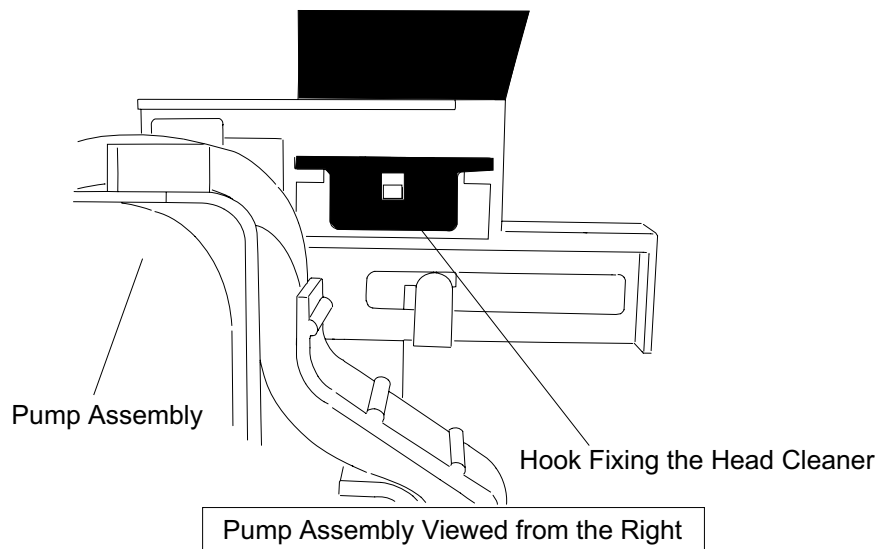

Figure 3-43. Head Cleaner Location
- When mounting the head cleaner on the pump assembly, face the rubber part of the cleaner to the right. Be sure to hook the hole in the head cleaner to the pump assembly, as shown in Figure 3-43.